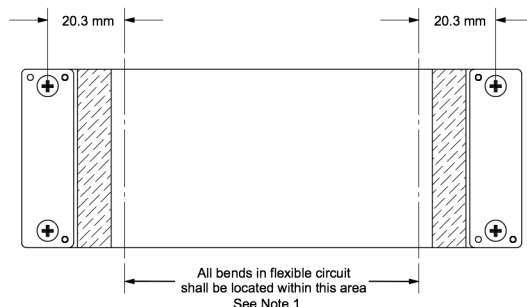

Figure 1-5. Flex Cable Diagram
- Bending the cable outside the area identified in Figure 1-5 (within 20.3mm of connector plate centers).